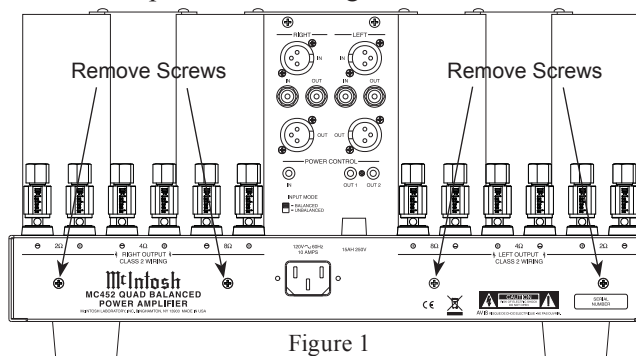

Figure 1
3. Using a suitable tool remove the four screws from the MC452 Rear Panel and temporarily place them in a safe place. Refer to figure 1.
5. Using a suitable tool remove the four screws from the MC452 Rear Panel and temporarily place them in a safe place. Refer to figure 1.